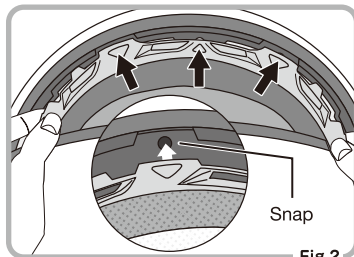

Fig.2
- 2 Second, push in each of three snaps to the helmet side as Fig.2.